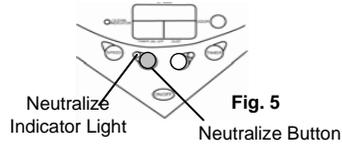

Fig. 5
1. To turn the neutralize feature "On", press the neutralize button on the control panel or the remote control. The neutralize indicator light will illuminate when the feature is "On". (Fig. 5)